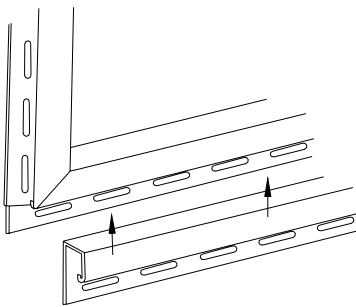

Figure 8.
- When installing CraneBoard panels under windows, use a snap lock punch to secure the panel into the J channel. Depending upon where the window cut falls on the panel, you may need to install universal J or shim out a piece of finish trim and install into the 1-1/8" under the window. Snap lock the cut edge into this trim (Fig. 8).